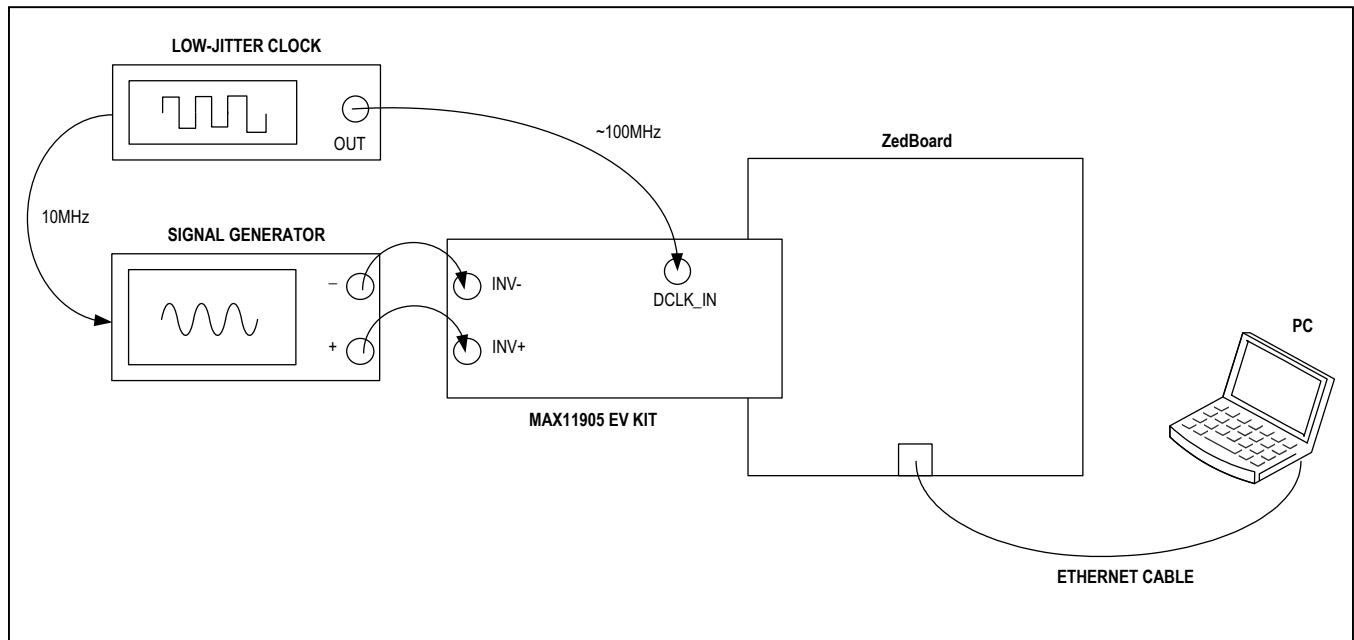
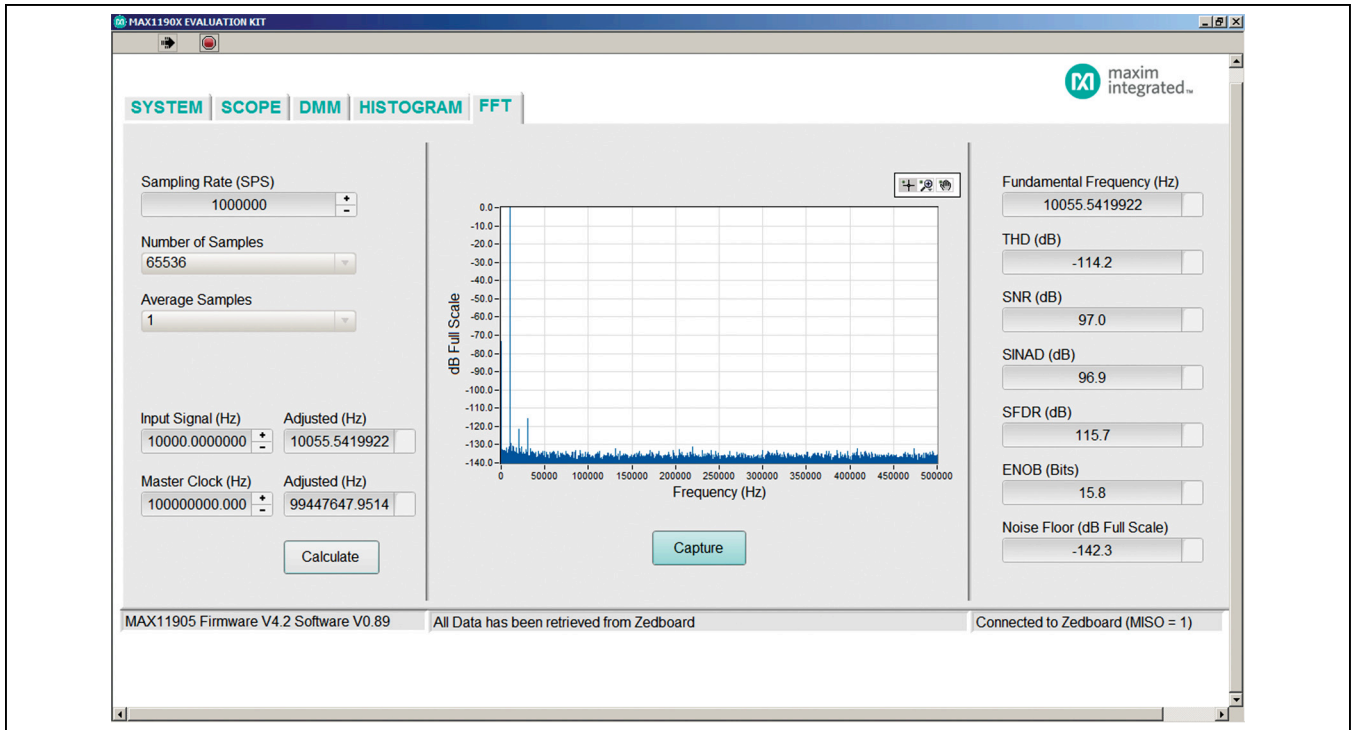
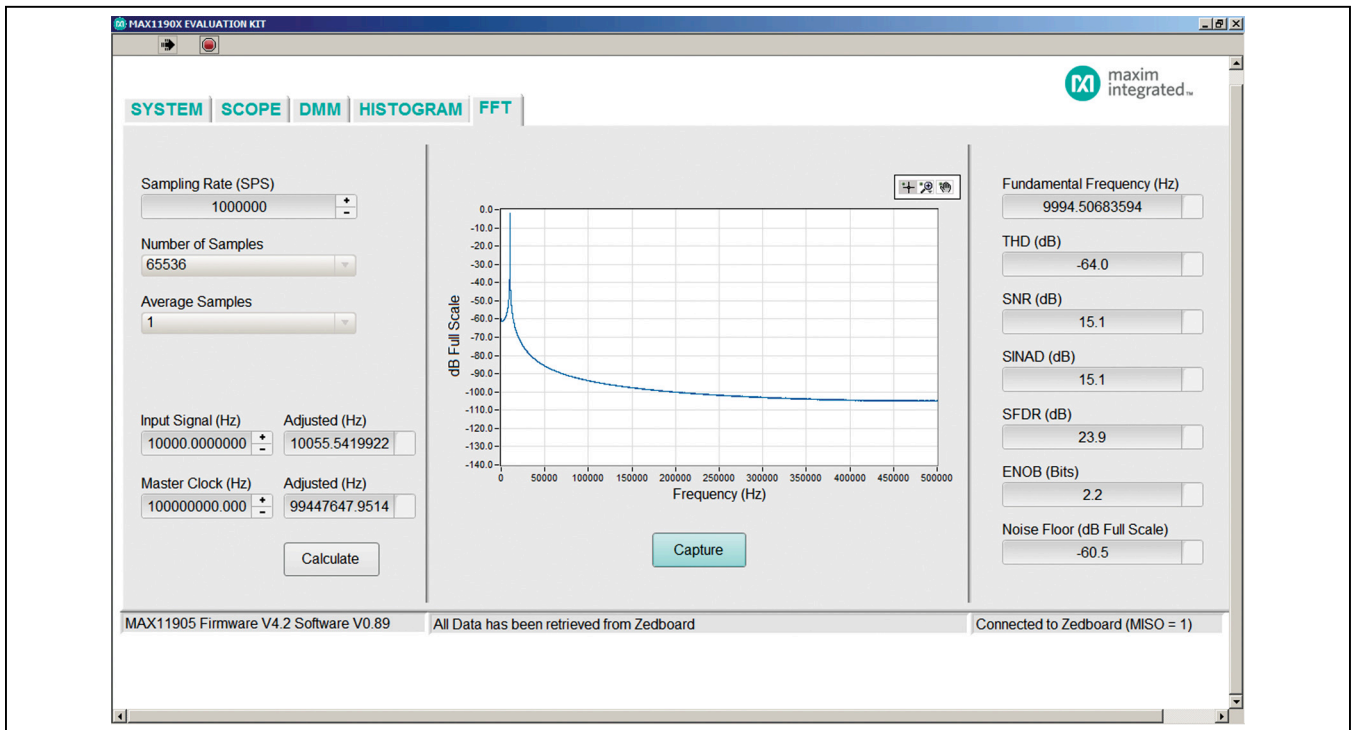

Figure 5. MAX11905 EV Kit Coherent Sampling Setup
Figure 6. MAX1190X EV Kit Main Window, Results Using the Inverting Setup (FFT Tab)
Figure 7. MAX1190X EV Kit Main Window, Results Using the Inverting Setup with Noncoherent Sampling (FFT Tab)
- 20) Click on the **FFT** tab (Figure 6) and start capturing data.
Figure 5 shows the setup Maxim uses to capture data for coherent sampling.
To achieve the results similar to Figure 6, the daughter board was configured to inverting configuration. Use the jumper settings from Table 2 for proper configurations. The input signal from the signal generator must be exactly **10000.000000 Hz**. The low-jitter clock is synchronized with the signal generator. The master clock was initially set to **1000000000 Hz** but to achieve coherent sampling, the user must click on the **Calculate** button and use the **Adjusted(Hz)** frequency. **99523158.694 Hz** was entered into our low-jitter clock. The master clock is fed back to the ZedBoard and multiplied by 3/2, then generates a system clock that drives the Xilinx FPGA. Timing for all SPI timing and sampling rate are based off the system clock.
If the results do not look similar to Figure 6 and more similar to Figure 7, then check all connections in Figure 5 to make sure the setup is synchronizing properly.